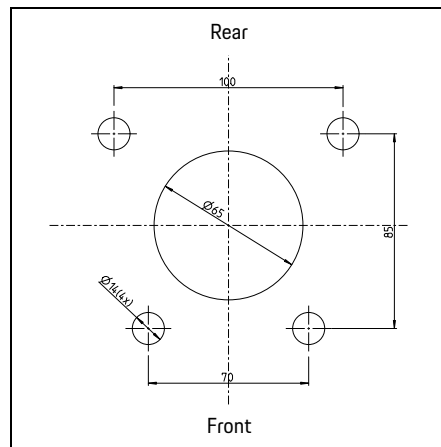

Fig. 2: Drilling dimensions
- ▶ For anchor rod dimensions, see Fig. 2.